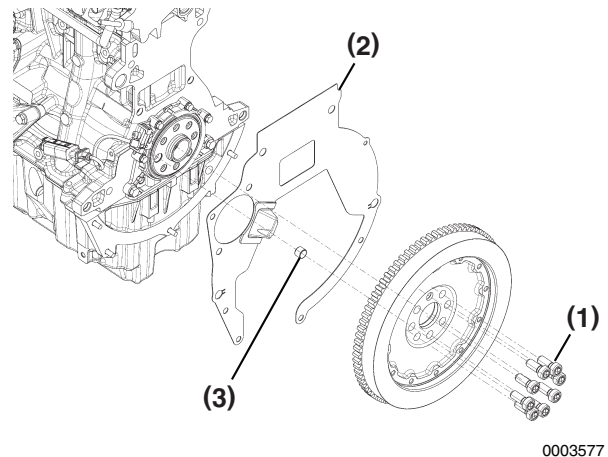

Figure 5-70
1. If removed, install the pilot bushing (**Figure 5-70, (3)**) in the crankshaft.
2. Install torque plate (**Figure 5-70, (2)**).
4. Apply medium strength thread lock and sealer to the threads of the flywheel bolts (**Figure 5-70, (1)**). Install bolts and tighten to initial torque specification. **NOTICE: NEVER reuse flywheel bolts. ALWAYS install new flywheel bolts.**